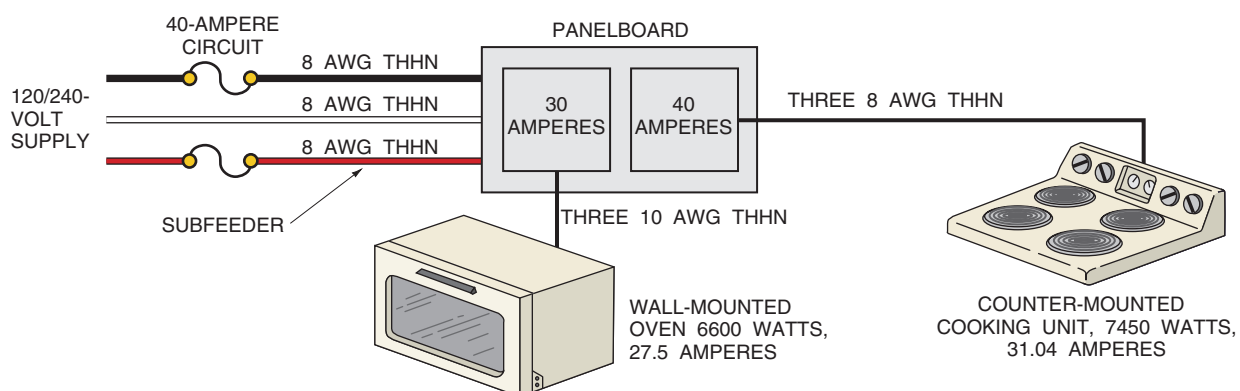

Figure 20-3 Appliances connected to a panelboard.
The tap rules can be ignored if a smaller panelboard is installed as illustrated in Figure 20-3. There will be no "taps"—just branch circuits to each appliance sized for that particular appliance.
- Run one large feeder from the main panel to a panelboard located near the appliances, then run a separate branch circuit to each appliance. See Figure 20-3.